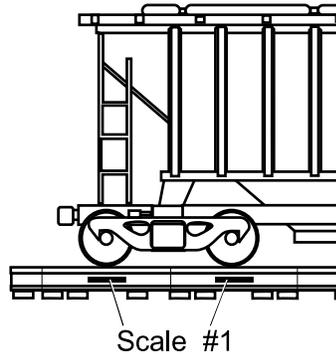

Figure 2
4. Move the car so that the second truck is on the scale. See Figure 2. . . Total car weight is displayed.